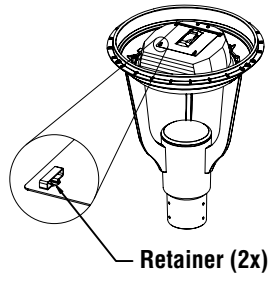

Fig. 7
2. FOR HORIZONTAL REFLECTOR : ROTATE 1/4 TURN (2X) & OPEN RELAMP DOOR AS SHOWN IN FIG. 7 & 8. REMOVE LAMP & REPLACE WITH SAME TYPE & WATTAGE PER RELAMP MARKING LABEL. REPLACE RELAMP DOOR INTO REFLECTOR. ROTATE 1/4 TURN FASTENERS (2X).